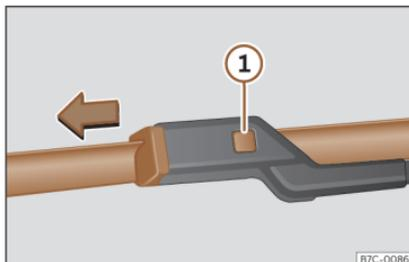

Fig. 145 Changing the windscreen wiper blades
- Press and hold release button >>> Fig. 145 **1** and pull gently on the wiper blade in the direction of the arrow.